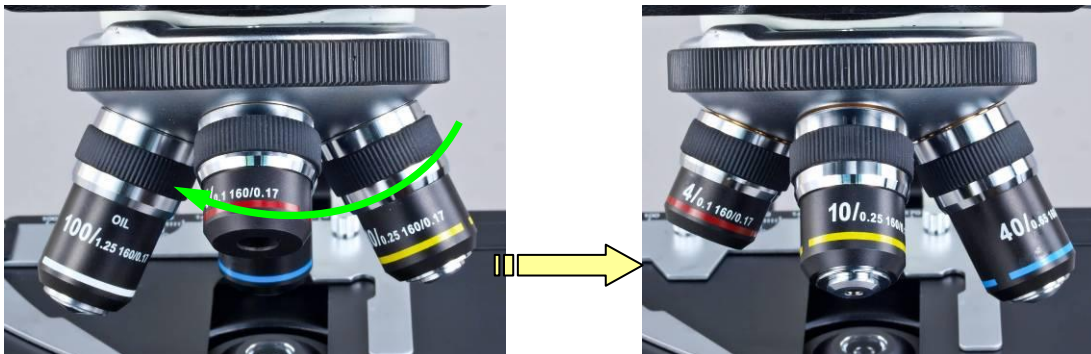

Fig.1
- 3) Take the objectives out from the plastic cases and turn each one clock-wise into the holes on the nosepiece. Install the 4X objective into the nosepiece first. Then in a counter-clockwise direction, rotate the nosepiece and install each succeeding higher magnification objective as shown in **Fig. 1**.